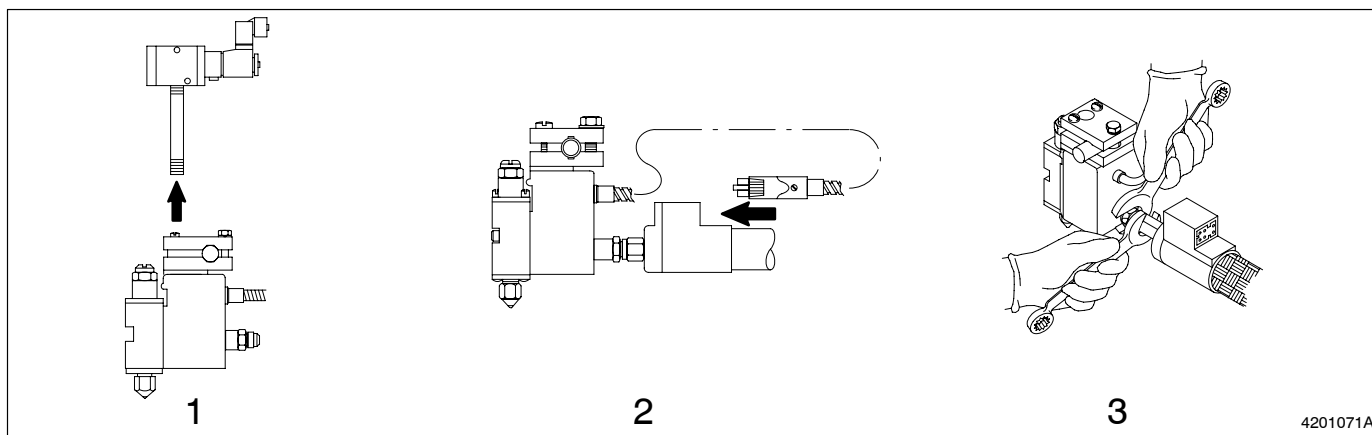

Fig. 3-6 Automatic Gun Installation
1. See Figure 3-6. Install the gun on the parent machine in proper alignment with the substrate (1). If the mounting retainer is used for this purpose, use a 13 mm (0.5 in.) diameter bar. For optimum control of bead position, optimum response time, and minimum heat loss, nozzles should be positioned approximately 13 mm (0.5 in.) from the substrate.